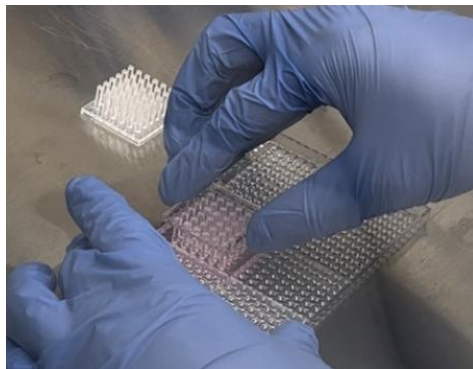

Figure 5. Stamping of the 36PillarPlate onto the LoadingPlate to load cells suspended in alginate-Matrigel on pillars.
- Stamp the 36PillarPlate on the LoadingPlate and press gently to load the cell-alginate-Matrigel mixture evenly on the entire pillar plate. Repeat this cell loading step for another pillar plate (**Fig. 5**).